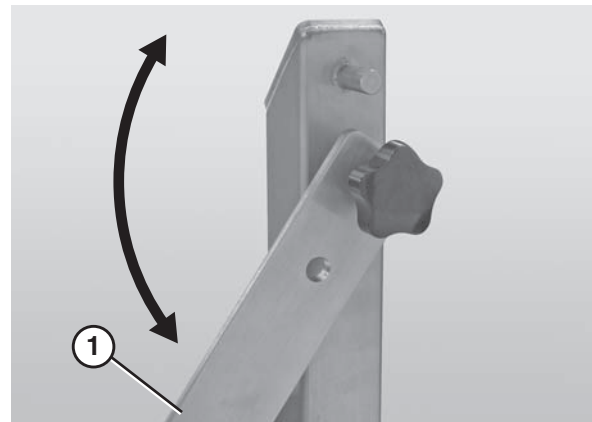

Figure 48
2. Lower the quick release arm (Figure 48, item 1) on one of the stands. *Note: if the conveyor is not equipped with Quick Release (QR Type) stands, it will be necessary to remove the entire stand.* For detailed instructions, refer to the “Sanitary Support Stands Installation, Maintenance and Parts Manual.”